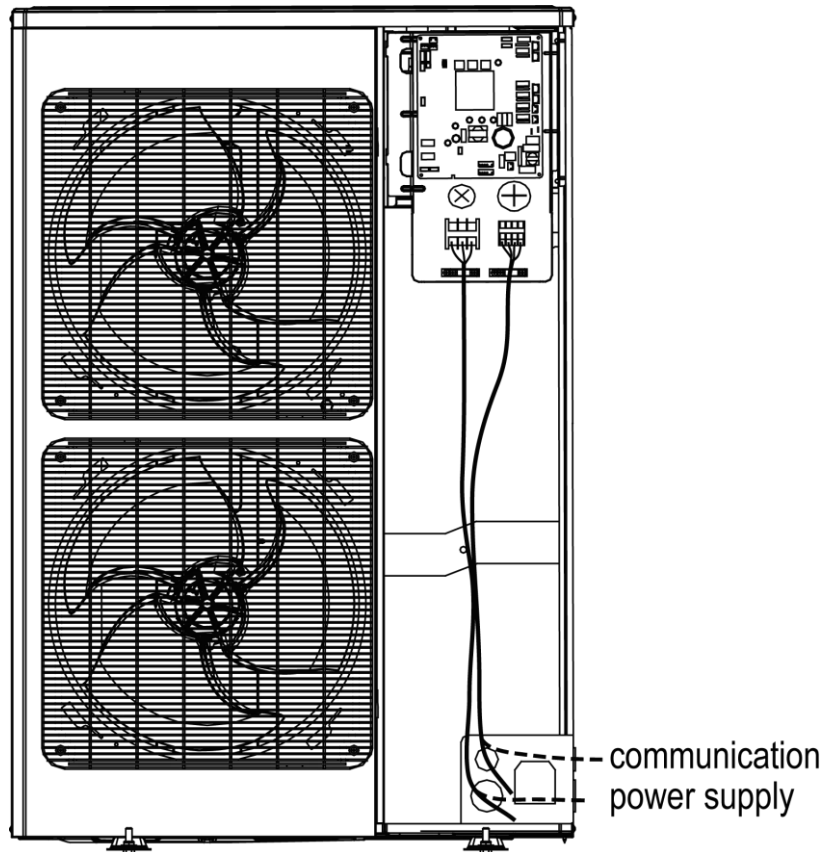

Fig. 25 Engineering Wiring View of M-VS-OV-224-SG
- (1) Please refer Fig. 25 and 26 for engineering wiring. If there is the hole for cable tie in wiring route, please fix the wire with cable tie. Connect the power cord and communication cable to the corresponding terminal board and grounding screw according to the wiring diagram.
- (2) Please be noted that engineering wiring cannot touch the pipe and appliance.
- (3) This figure is only applicable for engineering wiring reference of power supply and communication cable. If there are differences between the figure structure and actual unit, please refer to the actual unit.
- (4) For engineering wiring, please refer to the wiring diagram provided with the unit.